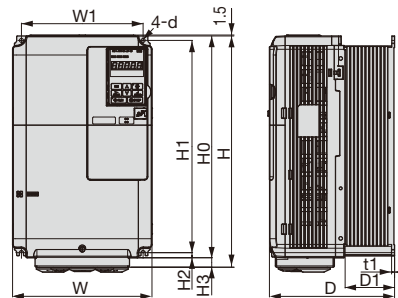

Figure 2
■ Open-Chassis (IP00) Note: The enclosure type of figure 1 and figure 2 is IP20.